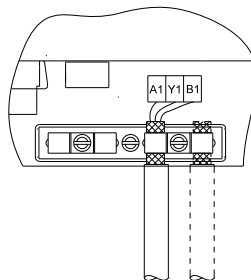

Fig. 9 Screen fixed with cable clamp
- Use screened cables for GENIbus. Connect the screen to the cable clamp of the CU 3X2 in front of the terminals A1, Y1 and B1. See fig. 9. Also use screened cable for the CIM module.